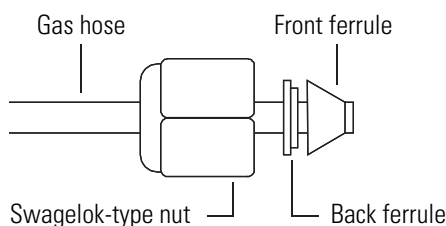

Figure 4-3. Proper orientation of the Swagelok-type nut and two-piece ferrule
1. Connect an appropriate length of 1/8-in. ID copper or stainless steel tubing with a brass Swagelok™-type 1/8-in. nut and a 2-piece brass 1/8-in. ID ferrule to the Helium gas inlet. See Figure 4-3 for the proper orientation of the fitting and ferrule.